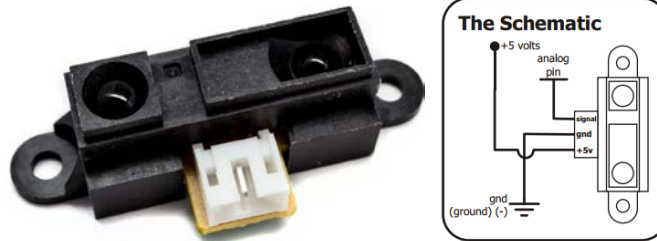

Figure 2: Sharp IR Sensor Pin Out
1. Mount at least 4 IR sensors to the front, back, left, and right side of the robot. Note they may already be mounted. The IR sensor is an analog sensor so you should connect the signal wire (white) to one of the analog pins on the microcontroller (A0-A15). Connect the black wire to the ground buss (blue line) on the breadboard. Connect the red wire to the 5V buss (red line closest to power switch) on the breadboard. Figure 2 shows the pinout for the Sharp IR sensor. **BE CAREFUL! If you connect the sensor to the wrong power buss you could damage it!**